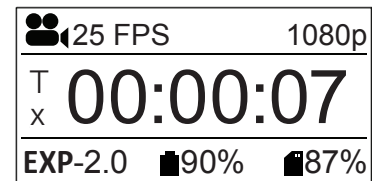

Figure 15: Recording Screenshot
5. Pressing ACTION will begin the loop recording, but without saving any footage. The LED will be blinking green, (see Figure 15).